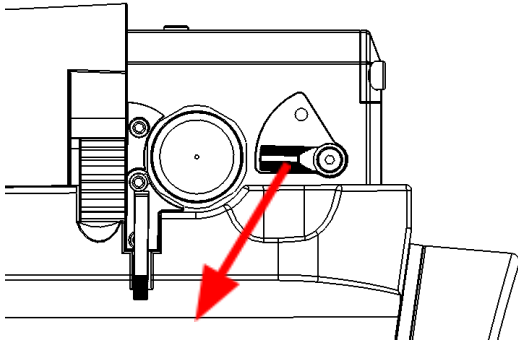

Figure.2
- ❖ (Figure 2) Push the SAFETY lever in the direction of the arrow to the “SAFE” position, the trigger is blocked and the gun cannot be shot.. (the red dot isn’t visible).